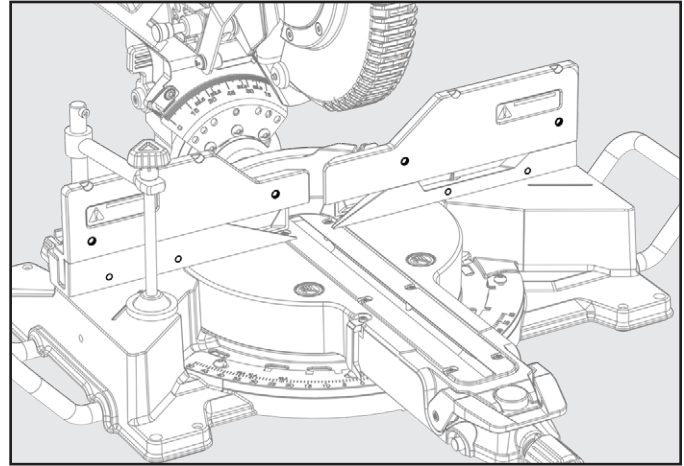

Figure 37
See Figure 37
1. Place auxiliary fence wood against miter saw fence. See Figure 37. The maximum height for this wood **MUST NOT** exceed 5.5 inch. Check to make sure auxiliary fence does make contact with saw head, check with saw head in the full DOWN and fully RETRACTED position.